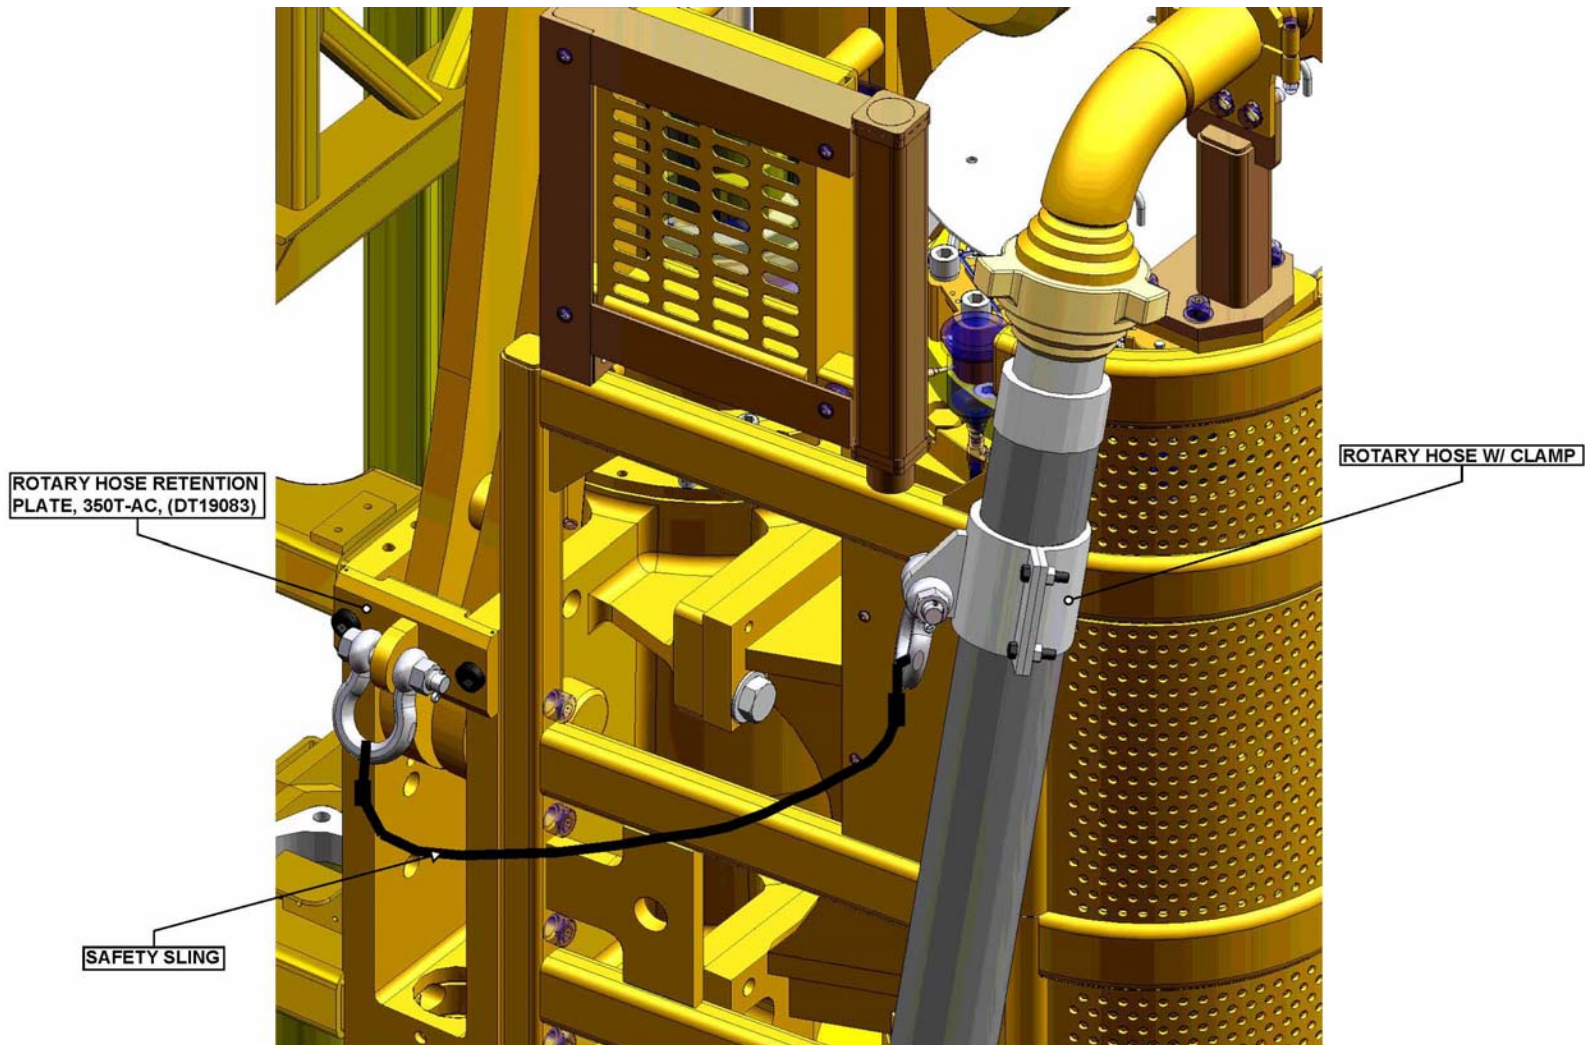

Fig. 2
1. Refer to included drawing (DT19084) for Top Drive Housing Modification to drill and tap (2) holes at specified dimensional location in drawing. See Fig. 2.
2. After holes are tapped, install Rotary Hose Retention Plate (DT19083) with (2) 1"-8UNC x 2" (SH-1000NC-0200-W) capscrews and (2) Nordloc washers (LW-1000-NL).
3. Torque the (2) 1"-8UNC x 2" (SH-1000NC-0200-W) capscrews to 848 ft-lbs and safety wire with (M21-2000-010) and (M19-3006-010).
Final assembly should be as shown in Fig 2.